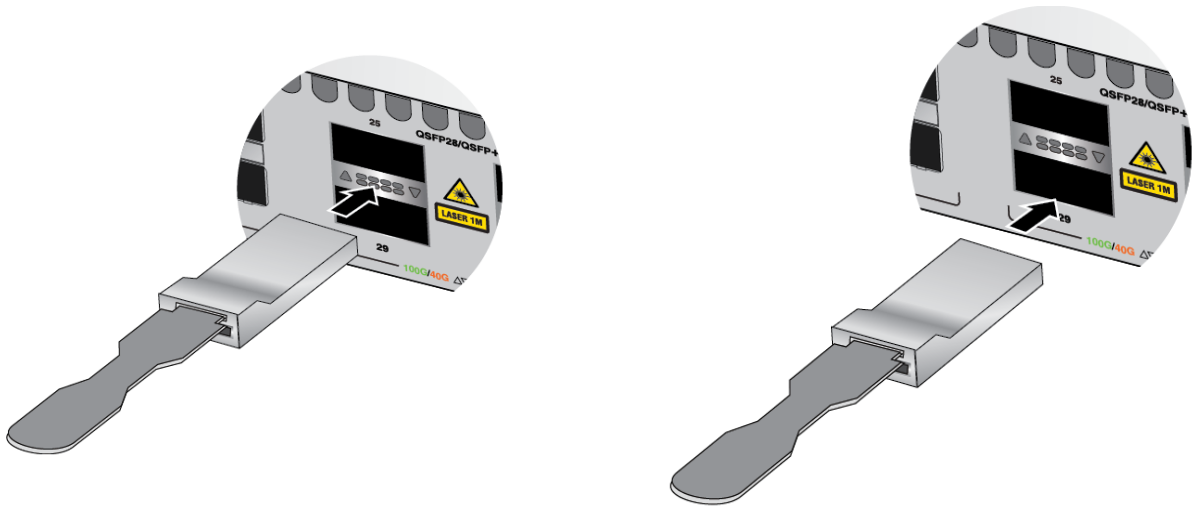

Figure 118. Installing 100Gbps QSFP28 Transceivers in Base Ports 25 to 37
- ❑ 100Gbps QSFP28 transceivers for base ports 25 to 37: refer to Figure 118.